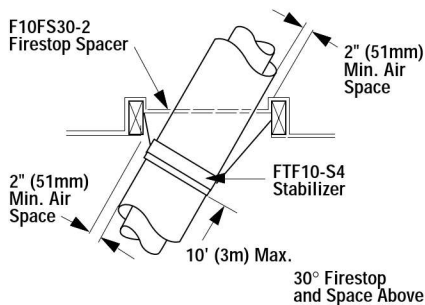
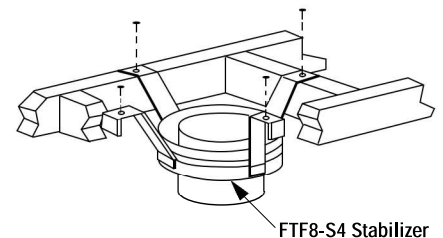

Figure 20
Figure 25
It may be necessary to assemble the chimney at 30° when passing through the floor or ceiling area. Use the F10FS30-2 firestop spacer as shown in Figures 20 and 21. Support the chimney at floor or ceiling penetration with a FTF10 stabilizer if distance of chimney below ceiling is 10' or more. Maintain 2" minimum air space to combustibles from chimney sections.
Install the Model FTF10-S4 stabilizer by fitting inner section down into respective section of preceding flue pipe and locking outer stabilizer section into place over the outer chimney pipe. Position for proper clearance through framed opening and nail straps securely (under tension in "shear") into place on framing. Use 8d nails. Attach successive lengths of chimney pipe directly to stabilizer using same techniques as described in Step 3 (Figure 25).
Step 8. Security Chimneys locking bands, Model FLB, may be required if the chimney extends too high above the roof flashing. As a general rule, if the chimney extends more than 6' above the roof flashing, the use of locking bands is advisable to strengthen the chimney assembly. Align the locking band at the chimney joint. Locking bands wrap around pipe joints equally covering the joints of both pipe sections. Use the nut provided and TIGHTEN snugly. Do not overtighten as this might damage the chimney section (refer to Figure 25).
Step 1. Use Offset Chart to determine amount of horizontal offset (A) and height (B) for various chimney section assemblies.
Step 3. Use Elevation Chart as job estimator only. Add necessary firestop spacers and stabilizers as required. Firestop spacers must be used as shown in *Figures 20 and 21* and stabilizers as shown in *Figure 25*.